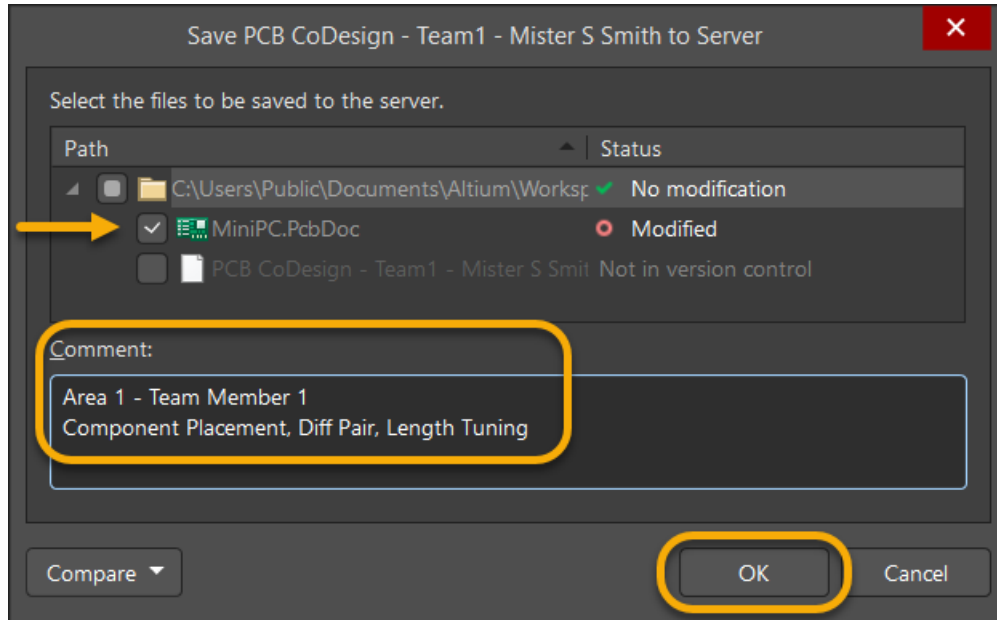

Figure 14. *Save to Server* dialog
38. In the *Save to Server* dialog, see Figure 14: